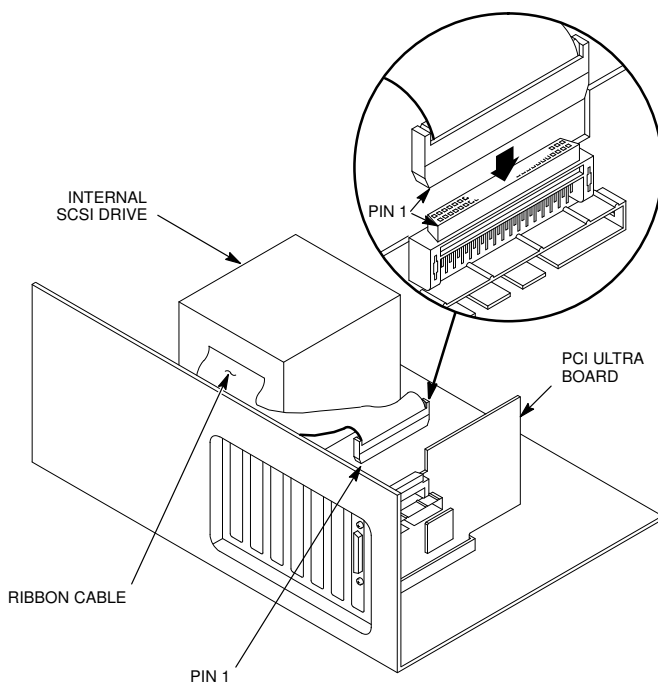

Figure 4. Internal SCSI Drive and Ribbon Cable
8. Internal SCSI drive: Connect the appropriate cable from the drives to the J2 connector (QLA1040-PI and QLA1041-PI boards) and/or the P2 connector on the top edge of the board (see figure 4).